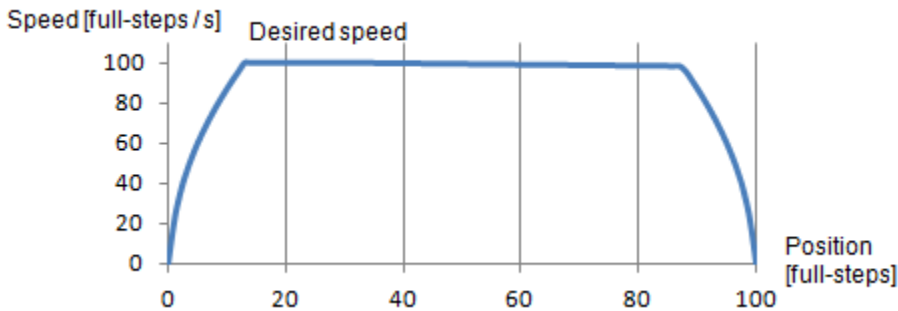

Figure 19. Acceleration and deceleration ramp
- a) **Full-step Configuration** contains speed and acceleration settings. Code for the acceleration and deceleration ramp is generated when the **Acceleration** property is set to a value greater than zero. Note that acceleration is always the same as deceleration. Figure 19 shows an example of an acceleration ramp. The acceleration setting is 400, as shown in Figure 18.